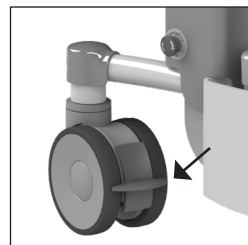

Figure 3. Steering wheel.
- The Elexo XXL is equipped with a steering wheel mounted on the left front side as standard (See figure 3). The direction of the wheel can be locked by pressing down on the green tab on the wheel. This makes pushing over longer distances less strenuous, as the chair will drift less sideways.